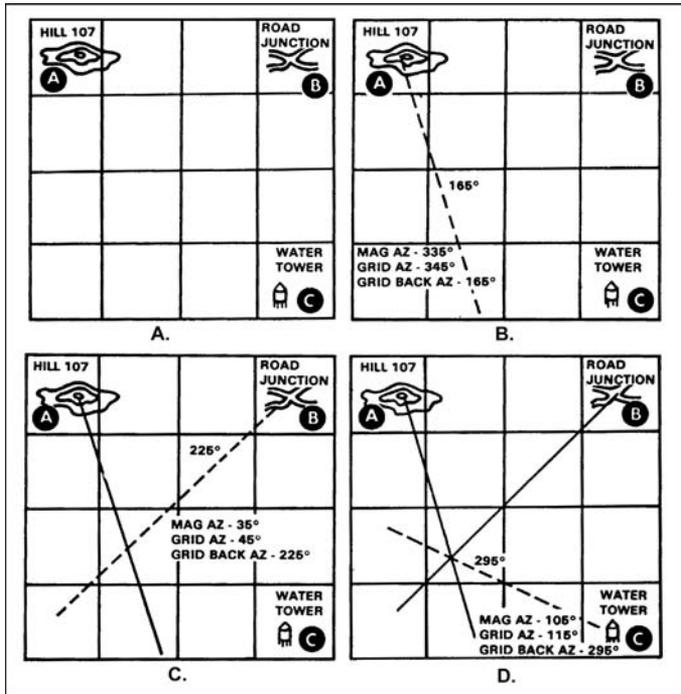

Figure 071-329-1015-1. Using the map and compass
1. Use the map and compass method (figure 071-329-1015-1).